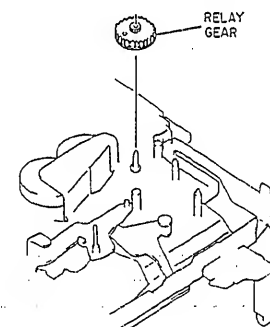

Fig. 2-91
1. Pull out the relay gear from the chassis. (See Fig. 2-91)